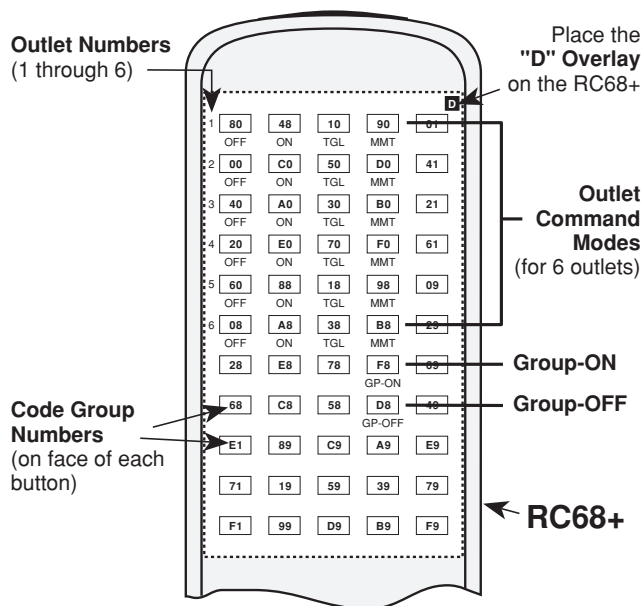

Fig. 2 RC68 Programmer
The RC68+ (or RC68) Programmer (available separately) contains all the commands necessary to operate the 680-10 (see Fig. 2).
(With the "D" Overlay. Refer to Fig. 2)
2. Outlets #1 through #4 on the 680-10 are sent separate ON and OFF commands. This means that outlet #1 will turn ON and OFF with the ON and OFF commands from row #1 on the RC68+ Programmer. Similarly, outlet #2 will turn ON and OFF with the ON and OFF commands from row #2 on the RC68+, and so on. Refer to **Fig. 2**.